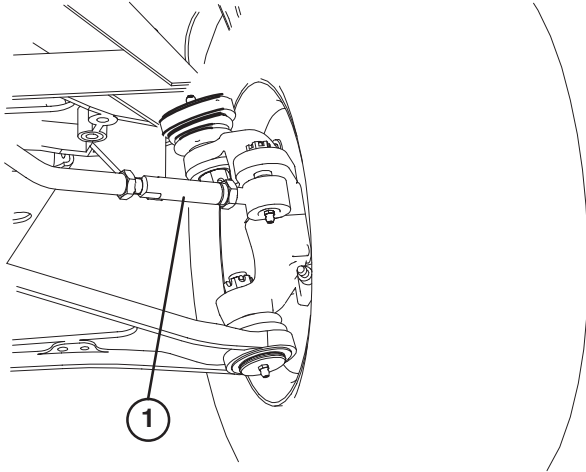

Figure 72
- On the left front wheel, loosen the jam nuts at both ends of the turnbuckle (Fig. 72).